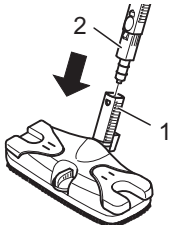

Fig. 4
4. Push the floor nozzle with the jointed connection (Fig. 4/1) onto the lower end of the extension tube (Fig. 4/2).